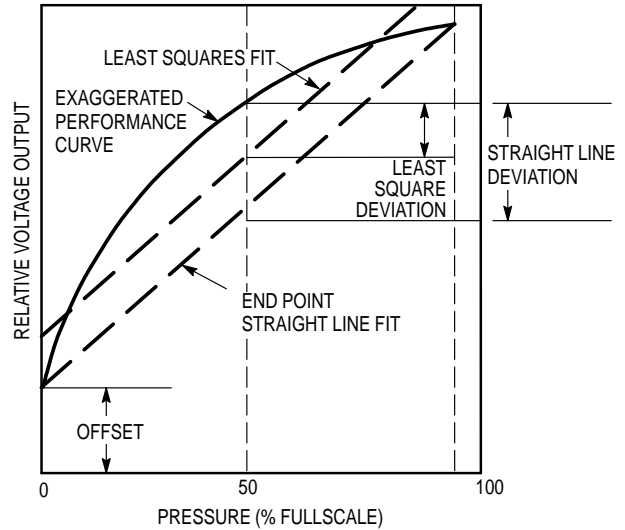

Figure 2. Linearity Specification Comparison
Linearity refers to how well a transducer's output follows the equation: $V_{Out} = V_{Off} + \text{sensitivity} \times P$ over the operating pressure range. There are two basic methods for calculating nonlinearity: (1) end point straight line fit (see Figure 2) or (2) a least squares best line fit. While a least squares fit gives the "best case" linearity error (lower numerical value), the calculations required are burdensome.